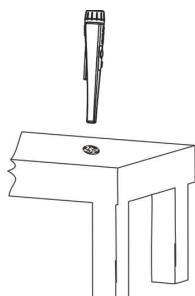

Fig. 3
3. Please put a coin on the plastic or wooden table. There mustn't be any metals under the table or around the coin in order to avoid the influence of metal. Please set the pinpointer above the coin vertically.(See figure.3)